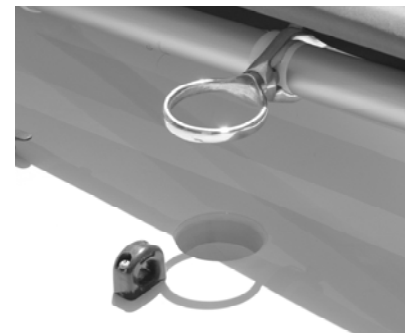

Figure: 47
4. Lay the booms and sail on the deck of the Sunfish. Align the gooseneck on the lower boom over the mast step hole (Figure 47).